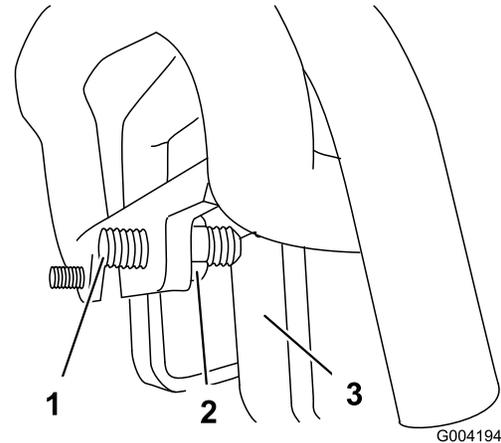

Figure 48
3. If the traction unit veers to the **left**, loosen the **right** jam nut and adjust the tracking set screw on the front of the traction control (Figure 48).
4. If the traction unit veers to the **right**, loosen the **left** jam nut and adjust the tracking set screw on the front of the traction control (Figure 48).